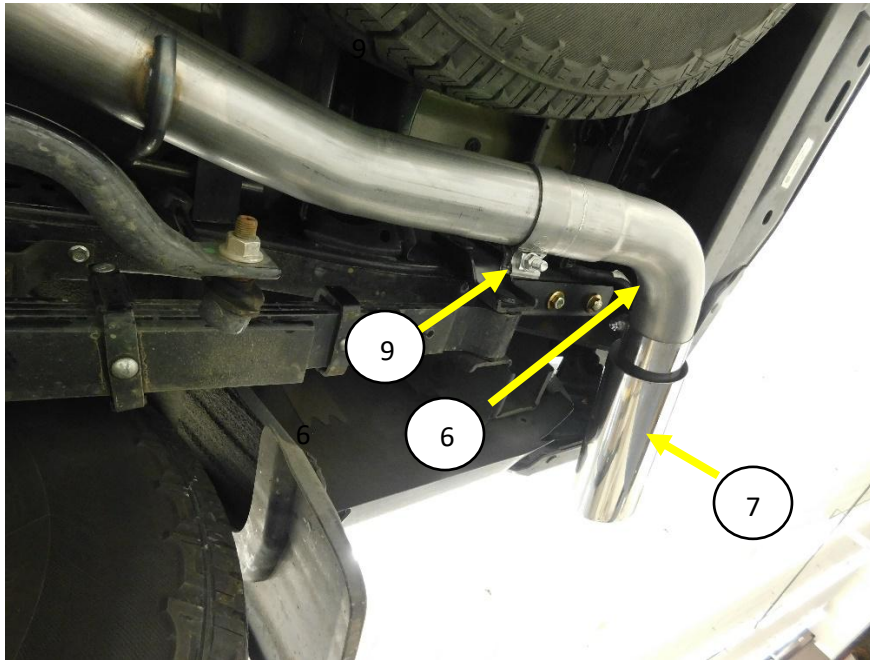

Figure.7
13. Install the 3" band clamp (9) on to the side exit pipe (6) expanded end. Install the side exit pipe on to the tail pipe and tighten the clamp to hold the pipe in place and allow for adjustment. **Fig.7**
14. Install the Exhaust tip (7) and tighten the clamp in the desired position. **Fig.7**